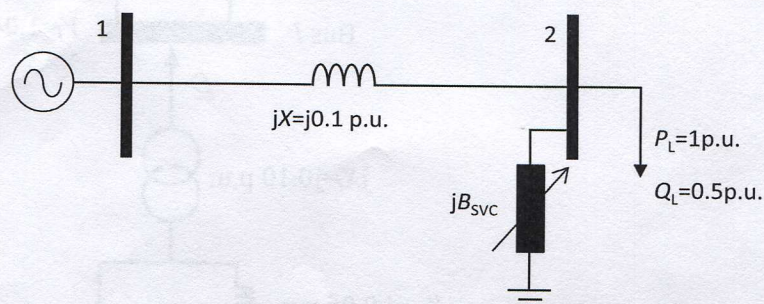

Figure 3
- B) For the circuit shown in Fig. 3 determine the nodal voltage solution at the end of the first iteration of the power flow Newton-Raphson method. Take bus 1 to be the slack bus. The voltage magnitude at bus 2 is kept at the specified value by action of the SVC connected at the bus. To start the iterative solution, assume the following starting values: